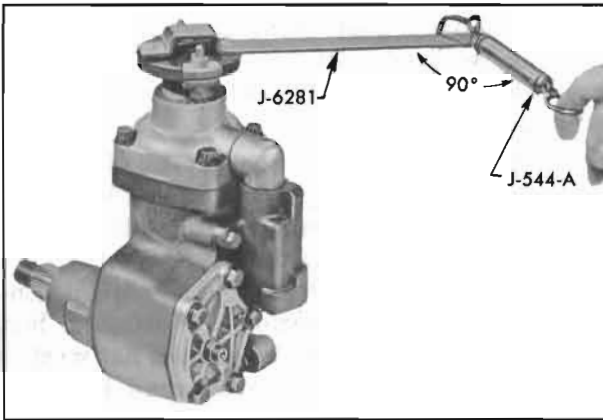

Figure 8-17—Pitman Shaft Adjustment
1. Place power steering gear assembly in vise with wormshaft up. See Figure 8-17. Install Over Center Adjuster J-6281 on flexible coupling.